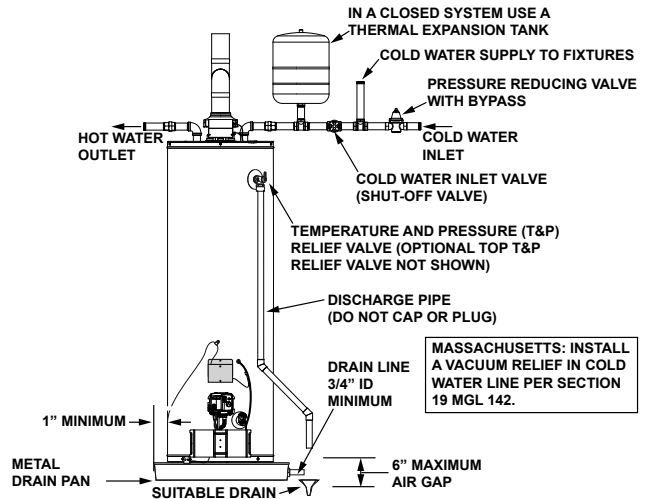

FIGURE 23.
Piping, fittings, and valves should be installed according to the installation drawing (Figure 23). If the indoor installation area is subject to freezing temperatures, the water piping must be protected by insulation.
1. Install the water piping and fittings as shown in Figure 23. Connect the cold water supply (3/4" NPT) to the cold water inlet fitting. Connect the hot water supply (3/4" NPT) to the hot water outlet fitting.